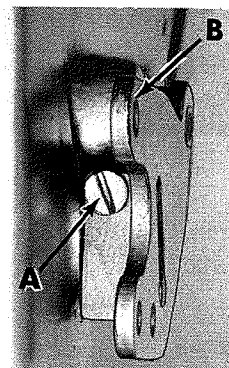
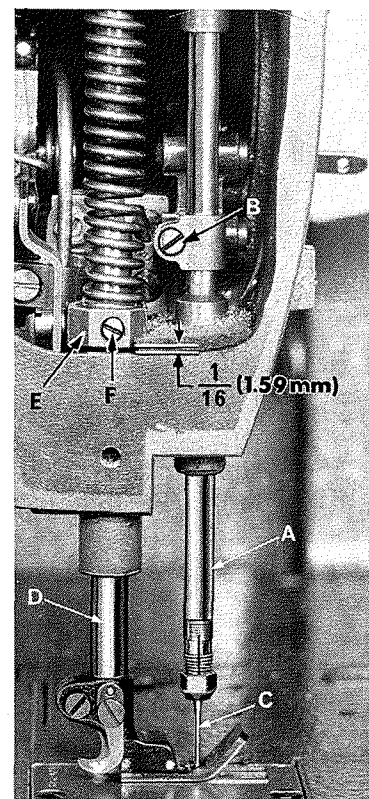

Fig. 12
Fig. 13
If adjustment is needed, loosen tension release lever screw (A, Fig. 12), located at the back of the machine and move tension disc separator as required. Retighten screw. After adjustment there should be no binding at any point.
Height of presser bar (D, Fig. 13) is set correctly if it is possible to remove the presser foot when foot lifter lever (B, Fig. 12) is fully depressed.
Also there should be approximately $\frac{1}{16}$ inch (1.59mm) clearance between lower surface of the presser bar connection and guide (E, Fig. 13) and the bottom surface of the head opening in the bed when foot lifter lever is released and the presser foot resting on the throat plate, with feed dog down below the throat plate.
If adjustment is needed, turn handwheel in operating direction until needle bar is in the low position. Loosen screw (F, Fig. 13). While holding presser foot down on the throat plate surface, pry up presser bar connection guide with a screwdriver to obtain the $\frac{1}{16}$ inch (1.59mm) setting and tighten screw (F). Check setting by turning handwheel so that needle bar is in its high position and see if presser foot can be removed as mentioned in previous paragraph.